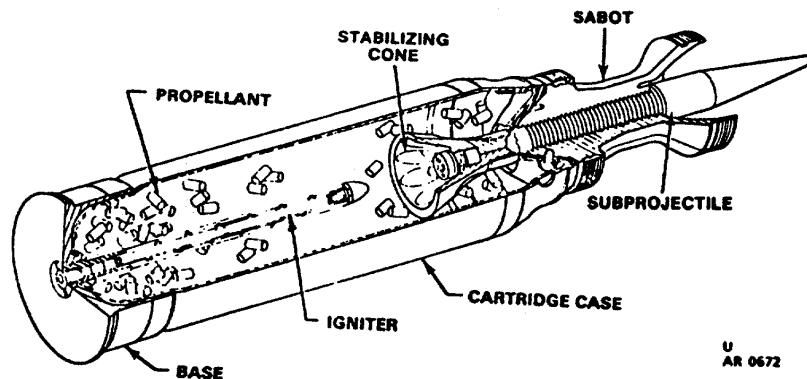

Figure 11. Cartridge, 120K: UB-T, DM38.
p. Description for Cartridge, 120K: UB-T, DM38 (Ubungsgeschoss-Leuchtspur/Training Projectile with Tracer) (fig. 11).
(1) Complete round. The complete round contains a propulsion system consisting of a metal cartridge case base with combustible side wall, granular propellant, and DM72A2 primer while the projectile consists of the subprojectile and aluminum sabot. The core is a one piece steel design with a tail cone assembly which is assembled into the sabot by means of threads. The tail cone contains nine holes which, in conjunction with the conical shape, provide stabilization. A reduction of range is obtained by the aerodynamic blocking effect of the holes. The tail cone assembly also contains a tracer. The aluminum sabot is composed of three 120-degree noninterchangeable segments with internal screw threads matching them on the outer diameter of the subprojectile. The sabot has a silicone rubber seal at the rear to prevent gas leakage.
(2) Complete cartridge weight. The weight of the complete cartridge is approximately 18.4 kg (40.6 lb) and the weight of the subprojectile is approximately 3.2 kg (7.1 lb).
(3) Use. This cartridge is a kinetic energy, target practice round for use with the 120mm smooth bore cannon. It is designed to simulate the service round characteristics at reduced maximum ranges to allow practice firings on short-range proving grounds and training areas.
(4) Functioning. The DM38 is loaded and fired from the 120mm tank gun in the normal manner. Upon initiation of the electric primer in the breech of the weapon, the resulting flash ignites the propelling charge and